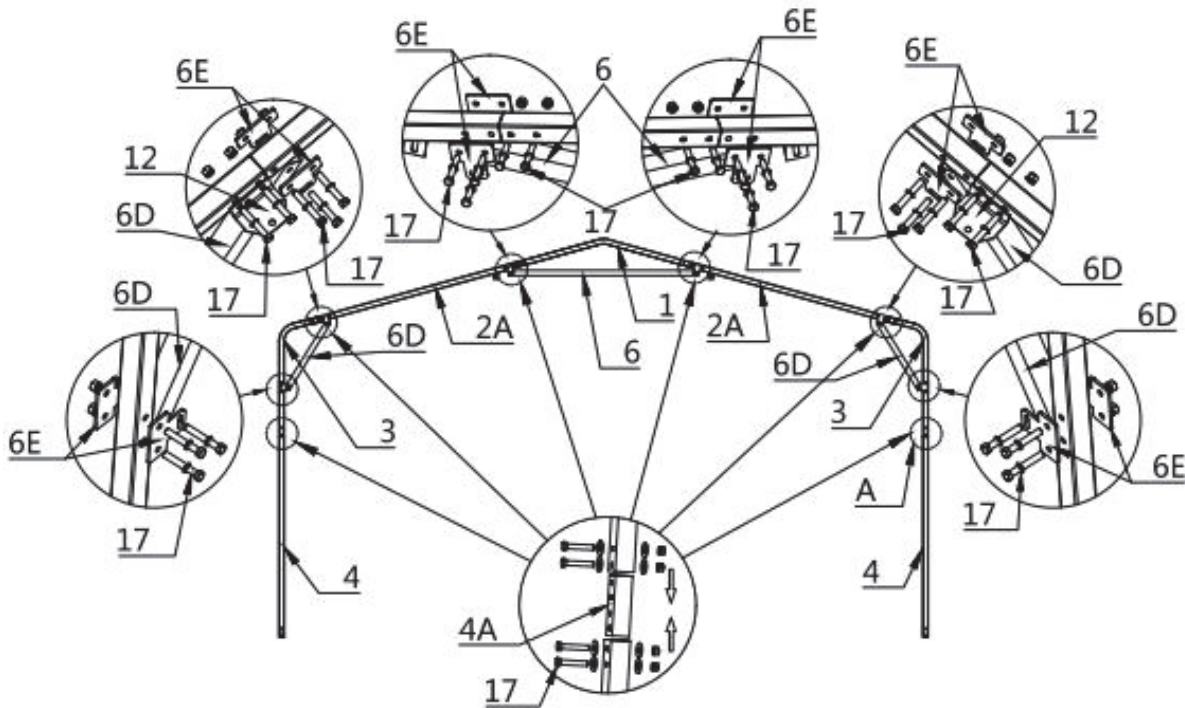

Figure 2
- Parts used to install the front and rear truss in this step (refer to figure 2).